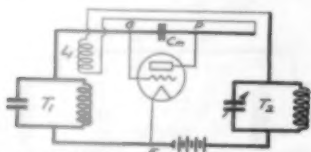

FIG. 3A
The simplest method of the first group is shown in Fig. 3a. It consists merely of the addition to the  $C_m$  coupling between grid and plate circuits of an additional magnetic coupling through the coil  $L_1$ . The connections to this coil are made opposite (reversed) with respect to those of the feedback coil in the Armstrong circuit, so that this magnetic coupling tends to suppress regeneration instead of aiding it, thus directly opposing the coupling through  $C_m$ . This circuit has been used by many experimenters and was probably first disclosed by Hartley (U.S. patent No. 1,183,875). It is now being utilized commercially in the Tuska "Superdyne" receiver. An inherent disadvantage of this form of control is that it involves balancing an inductance against capacity and hence the degree of compensation varies quite rapidly with the wavelength of the received signal. A fixed value for the inductive coupling may prevent actual self-oscillation over a band of wavelengths, but in general as  $T_1$  and  $T_2$  are tuned to different wavelengths the compensator coupling must be changed as well.
R.F. Amplifier embedding circuit of Fig. 3a